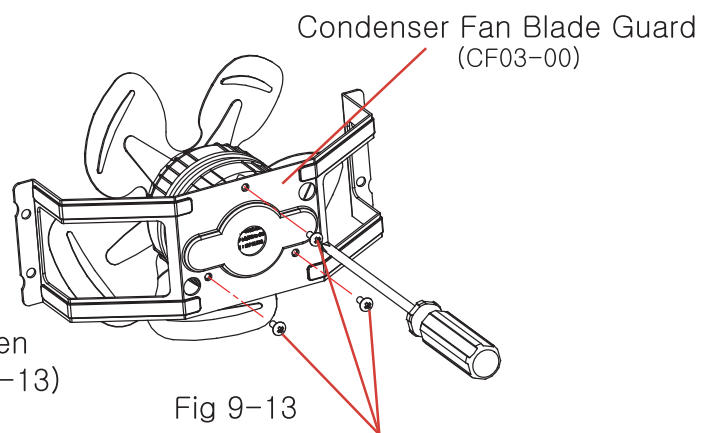

Fig 9-13
3. Loosen the connecting bolts between the fan motor and fan guard. (Fig 9-13)